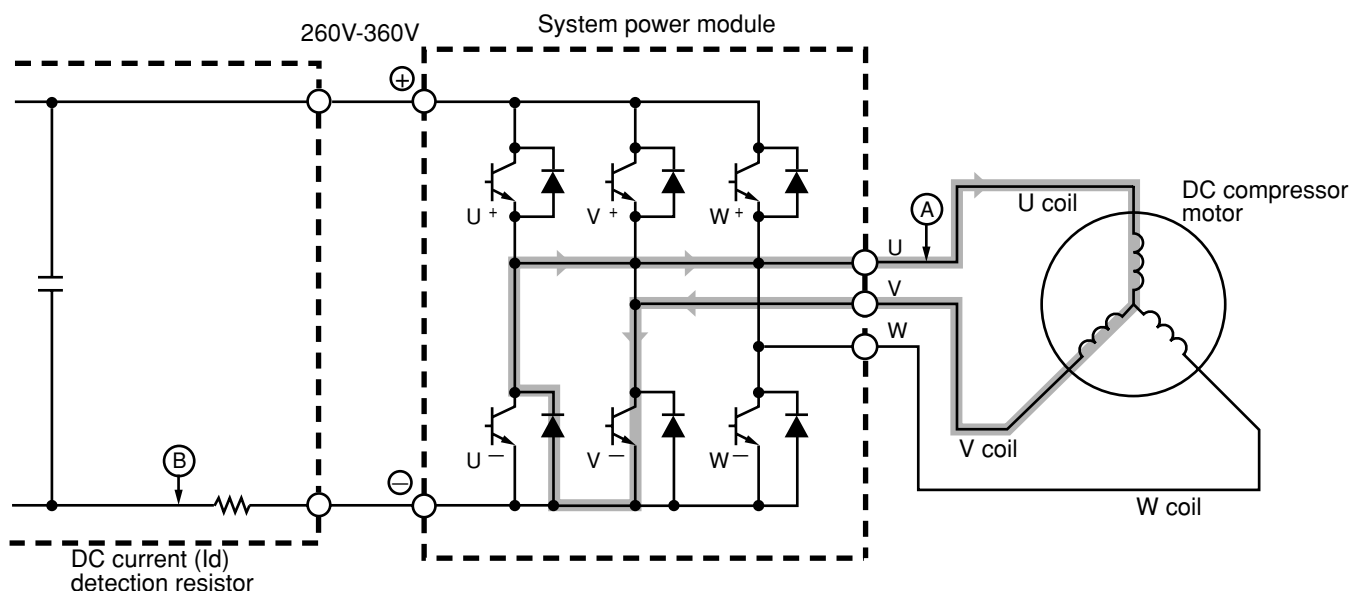

Fig. 3-4 Power module circuit (U^+ is ON, V^- is ON)
- (2) When U^+ transistor is OFF: (by inductance of motor coil) U coil \rightarrow V coil \rightarrow V^- transistor \rightarrow Return diode \rightarrow Point ① (Fig. 3-4)